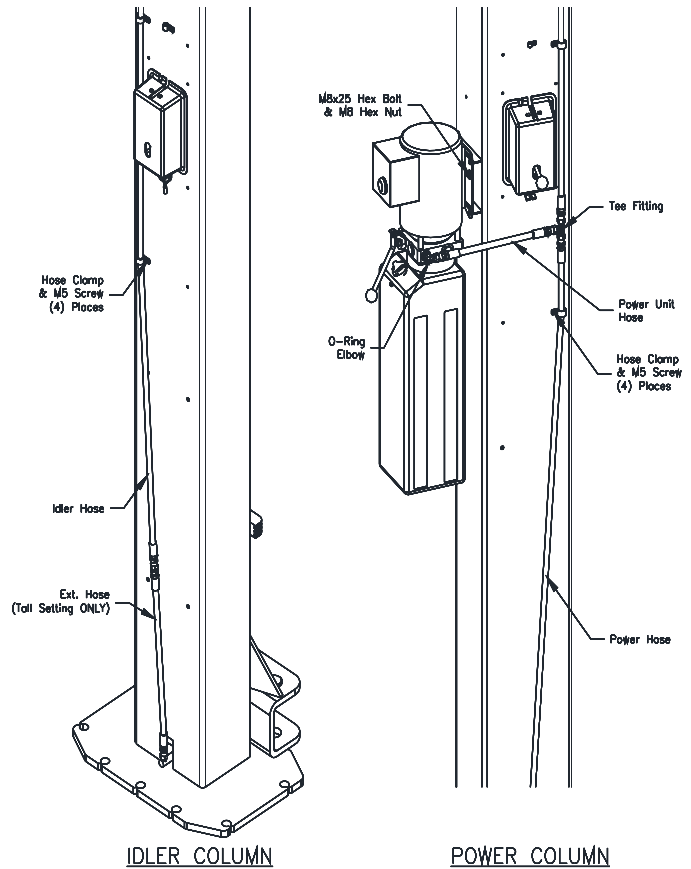

Fig. 6 – Hose Routing
- 19) Mount Power Unit to power column as shown in Fig. 6 using (4) M8 hex bolts and nuts.
- 24) Route the power hose from the power side cylinder elbow fitting up to the union tee provided. Connect idler hose and power unit hose to the union tee as shown in Fig. 6.